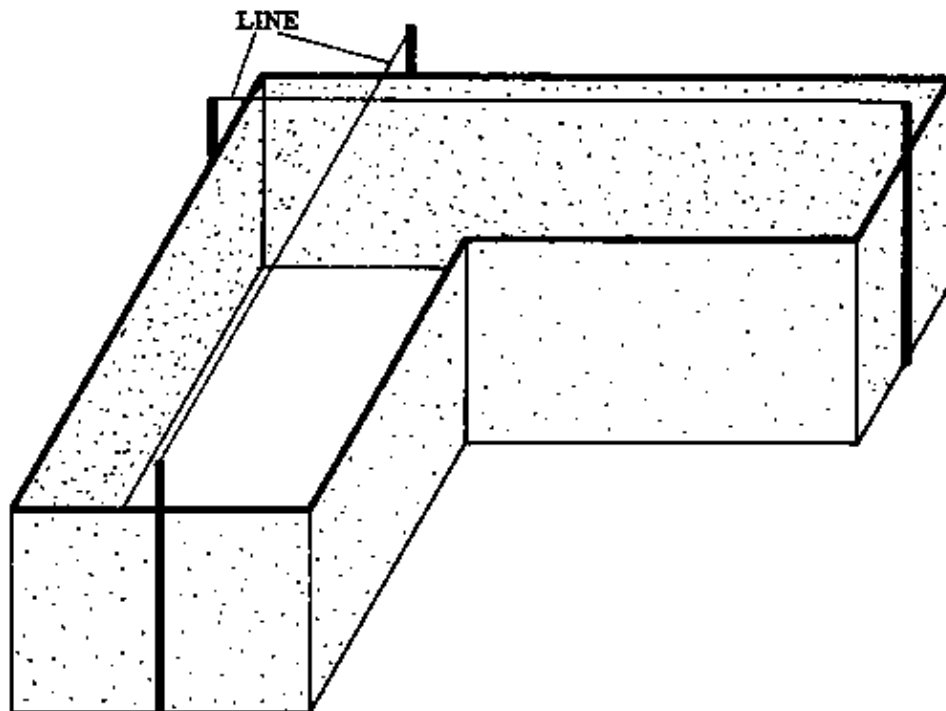

Fig. 1
– Start by erecting poles in the positions shown in Fig. 1, and fix lines at the ridge.